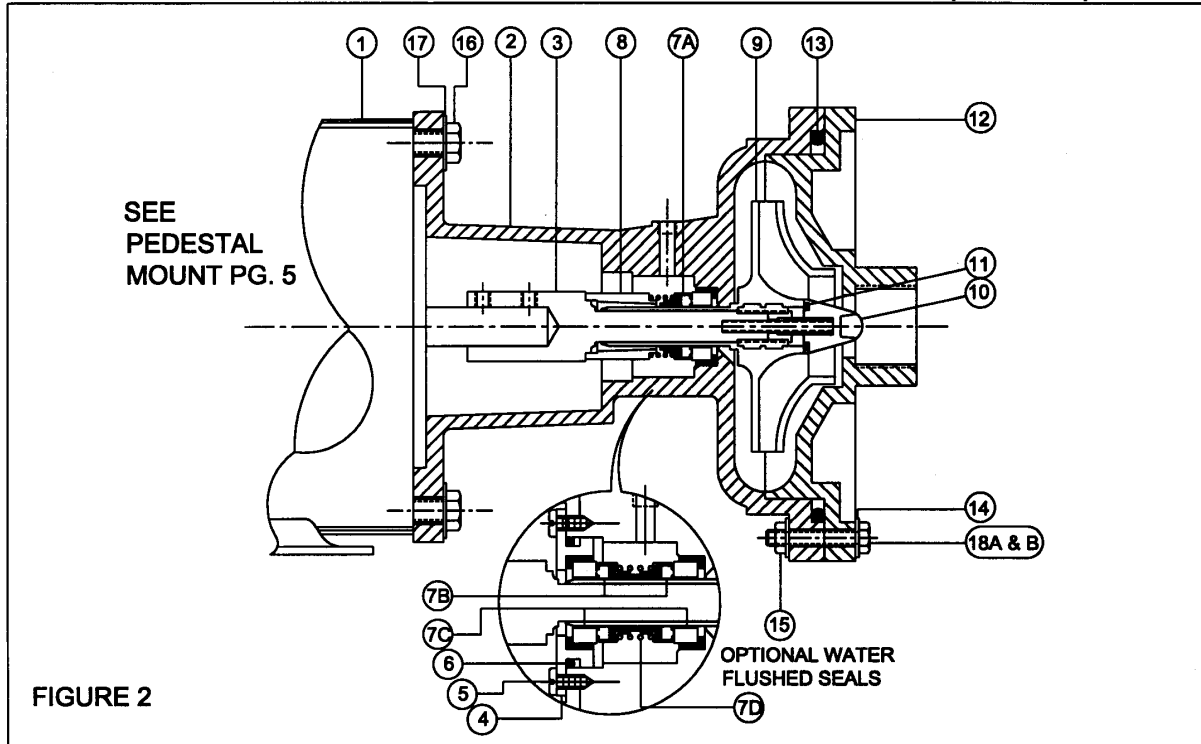

FIGURE 2
1. Remove bolts (See Fig. 2, Key No.18), nuts (Key No. 15), washers (Key No. 14), end cover (Key No. 12) and "O" ring (Key No. 13) from body (Key No. 2).